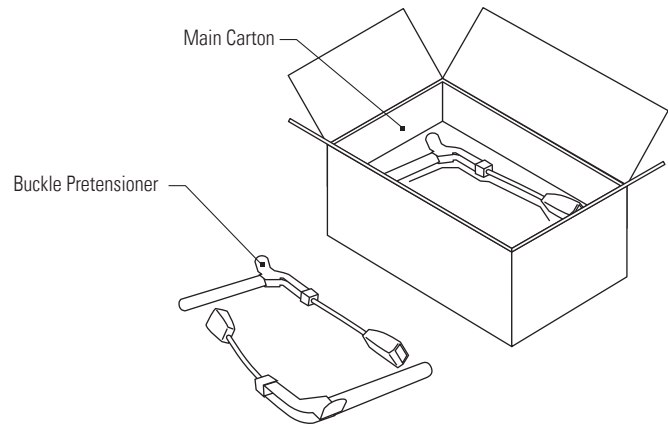

Figure 1
1. Remove unit from main carton. There are 4 units per carton. See **FIGURE 1**